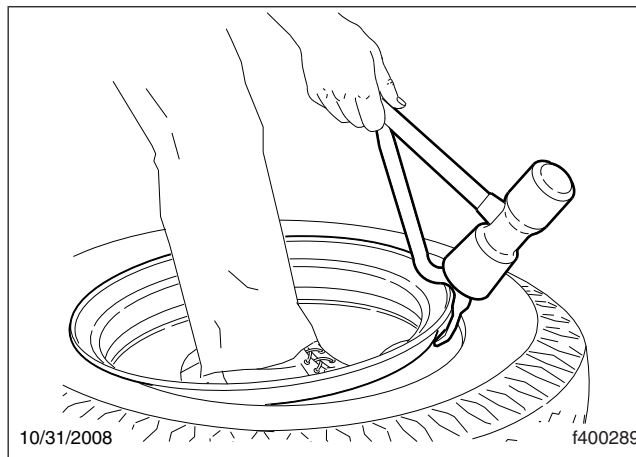

Fig. 3, Loosening the Beads
- 2.3 Holding the tool upright, hammer on the neck to free the tire bead from the wheel. See Fig. 3.